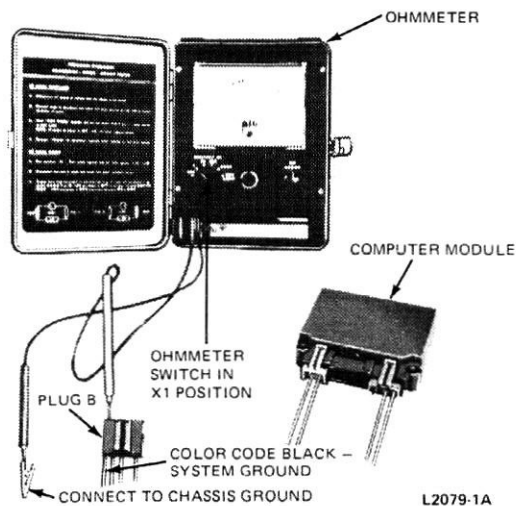

FIG. 12 Testing System Ground
1. Remove plug B from the module (Fig. 12).